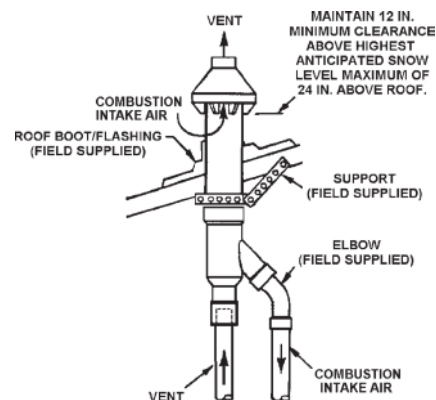

FIGURE 26.
INSTALLATION PROCEDURE 1 ROOF TERMINATION, see Figure 26.
5. Secure assembly to roof structure as shown in Figure 26 using field supplied metal strapping or equivalent support material.
NOTE: Ensure termination height is above the roof surface or anticipated snow level as shown in Figure 26.
7. Cement water heater combustion air intake and vent pipes to concentric vent termination assembly. See Figure 26 for proper pipe attachment.